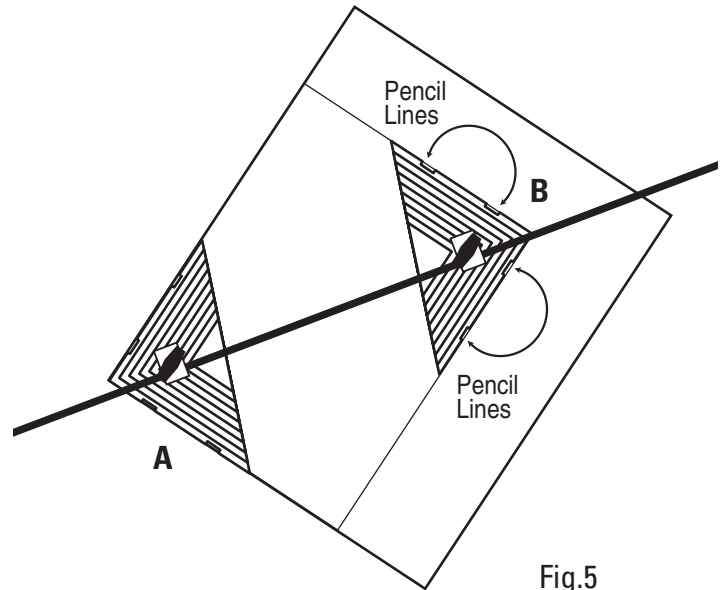

Fig.5
- Step 3** – Remove the sizing tool from the frame making sure the position of each Triangle does not change. Place Fit-N-Frame Border Guide on the back of the mat board by aligning Triangle A with the bottom left hand corner of the board. (Fig. 5)
- Step 4** – Next draw a line within the two short recesses of Triangle B. These lines are the outside dimensions of the mat. (Fig. 5)